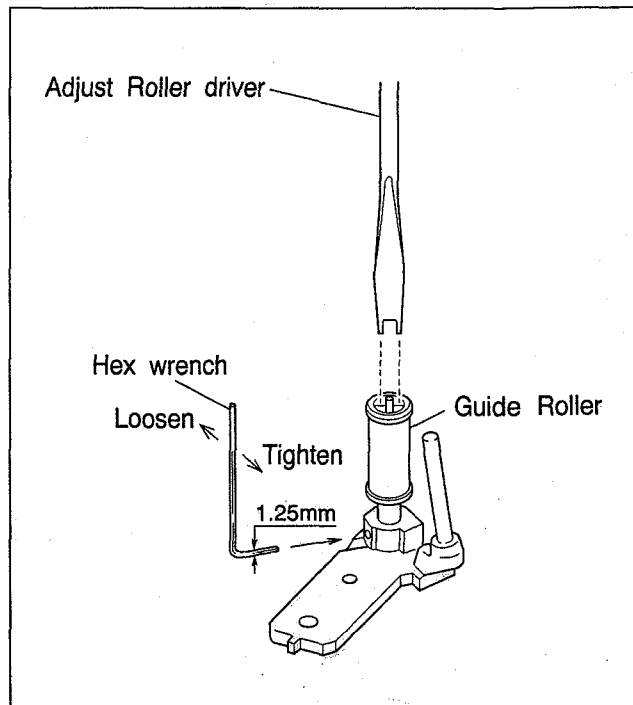
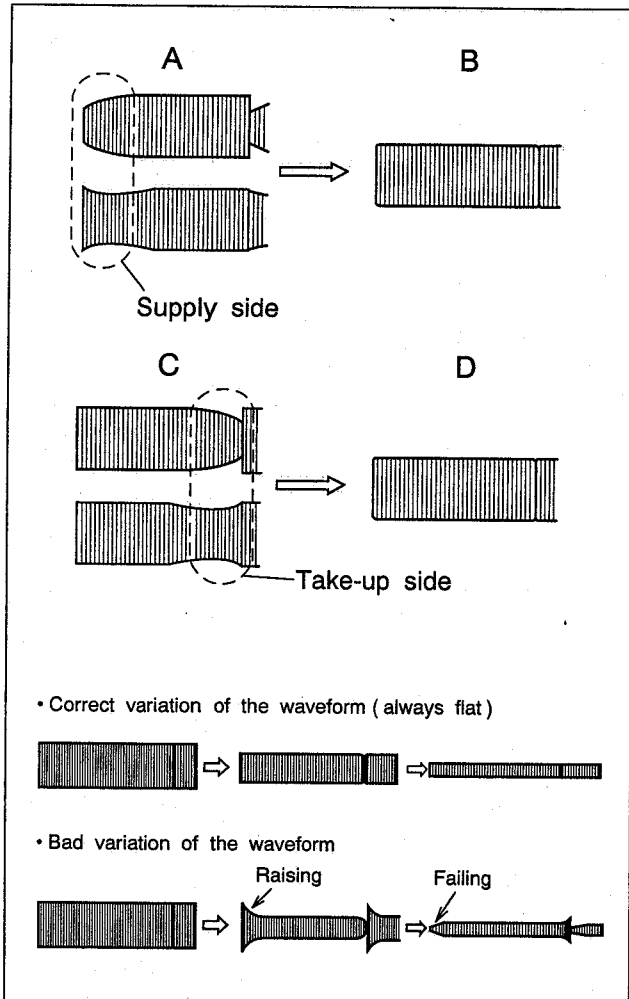
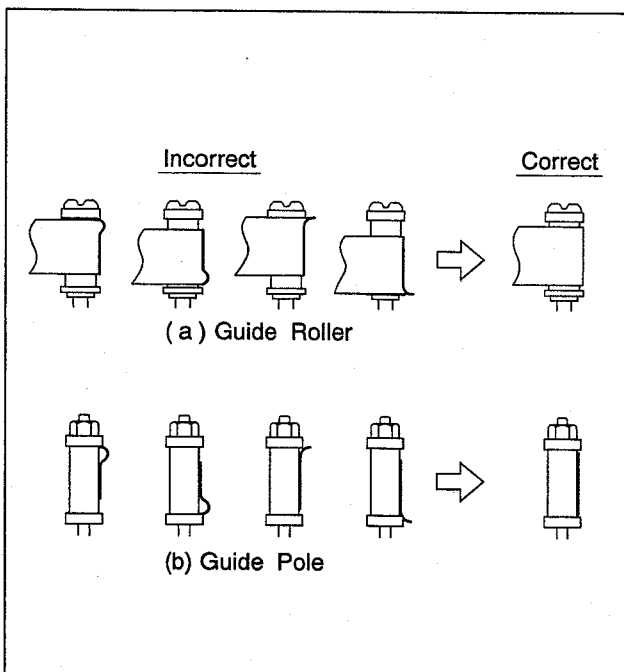

Fig. 2-7-2
Fig. 2-7-3
Fig. 2-7-4
- (6) When the FM waveform does not remain flat during this process,first slightly loosen the set screw located at the bottom of the guide rollers.Using the guide roller adjustment tool (Roller driver) ,adjust the supply and take-up guide rollers (refer to Fig.2-7-2) to obtain the correct waveform as indicated in Fig.2-7-3.
- (7) By pressing the CH buttons several times, vary the FM waveform output from maximum to minimum (and vice versa) gradually,and confirm that the variation proceeds in flat shape, as shown in Fig.2-7-3.
- (8) Next playback the EP stairstep portion of the alignment tape [MHP-L] and adjust the tracking control from maximum to minimum the FM waveform,confirm that FM waveform variation is always flat.
- (9) Record the signal and play it back in both of the SP and EP mode,confirm that the FM waveform is flat in both mode.
- (10) After adjustments,tighten the set screw of the guide rollers.
- (11) Confirm that the tape wrinking does not occur at the roller upper or lower limits as indicated in Fig.2-7-4.